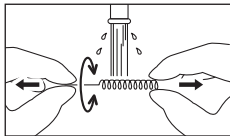

Fig. 33
- ② After using the Cleaning Wire, clean the wire for 15 seconds or more by pulling its both ends with your fingers while running water all around the wire (Fig. 33).